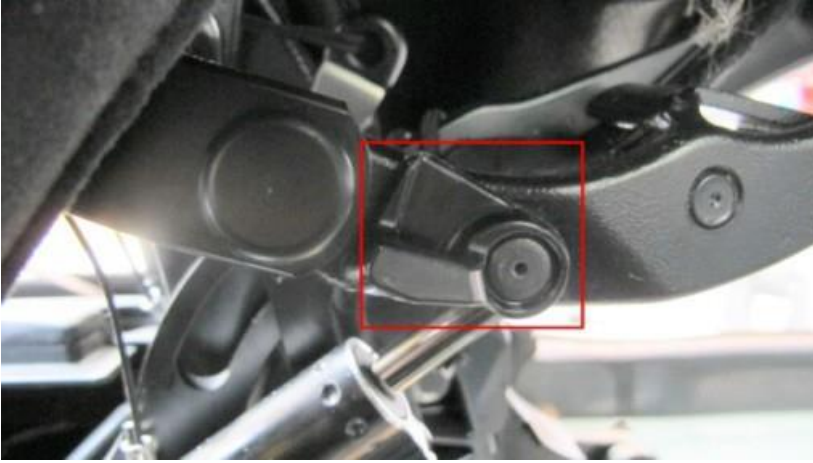

Figure 9
11. Figure 9 shows the finished item